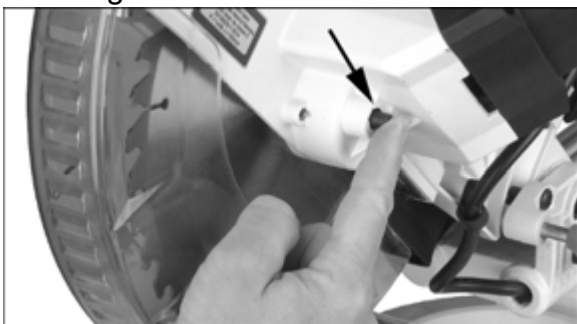

Figure 6-5
6. Press and hold arbor lock on opposite side of head (Figure 6-5) while rotating blade until arbor lock engages.
12. Press and hold arbor lock (Figure 6-5) while rotating blade until arbor lock engages.